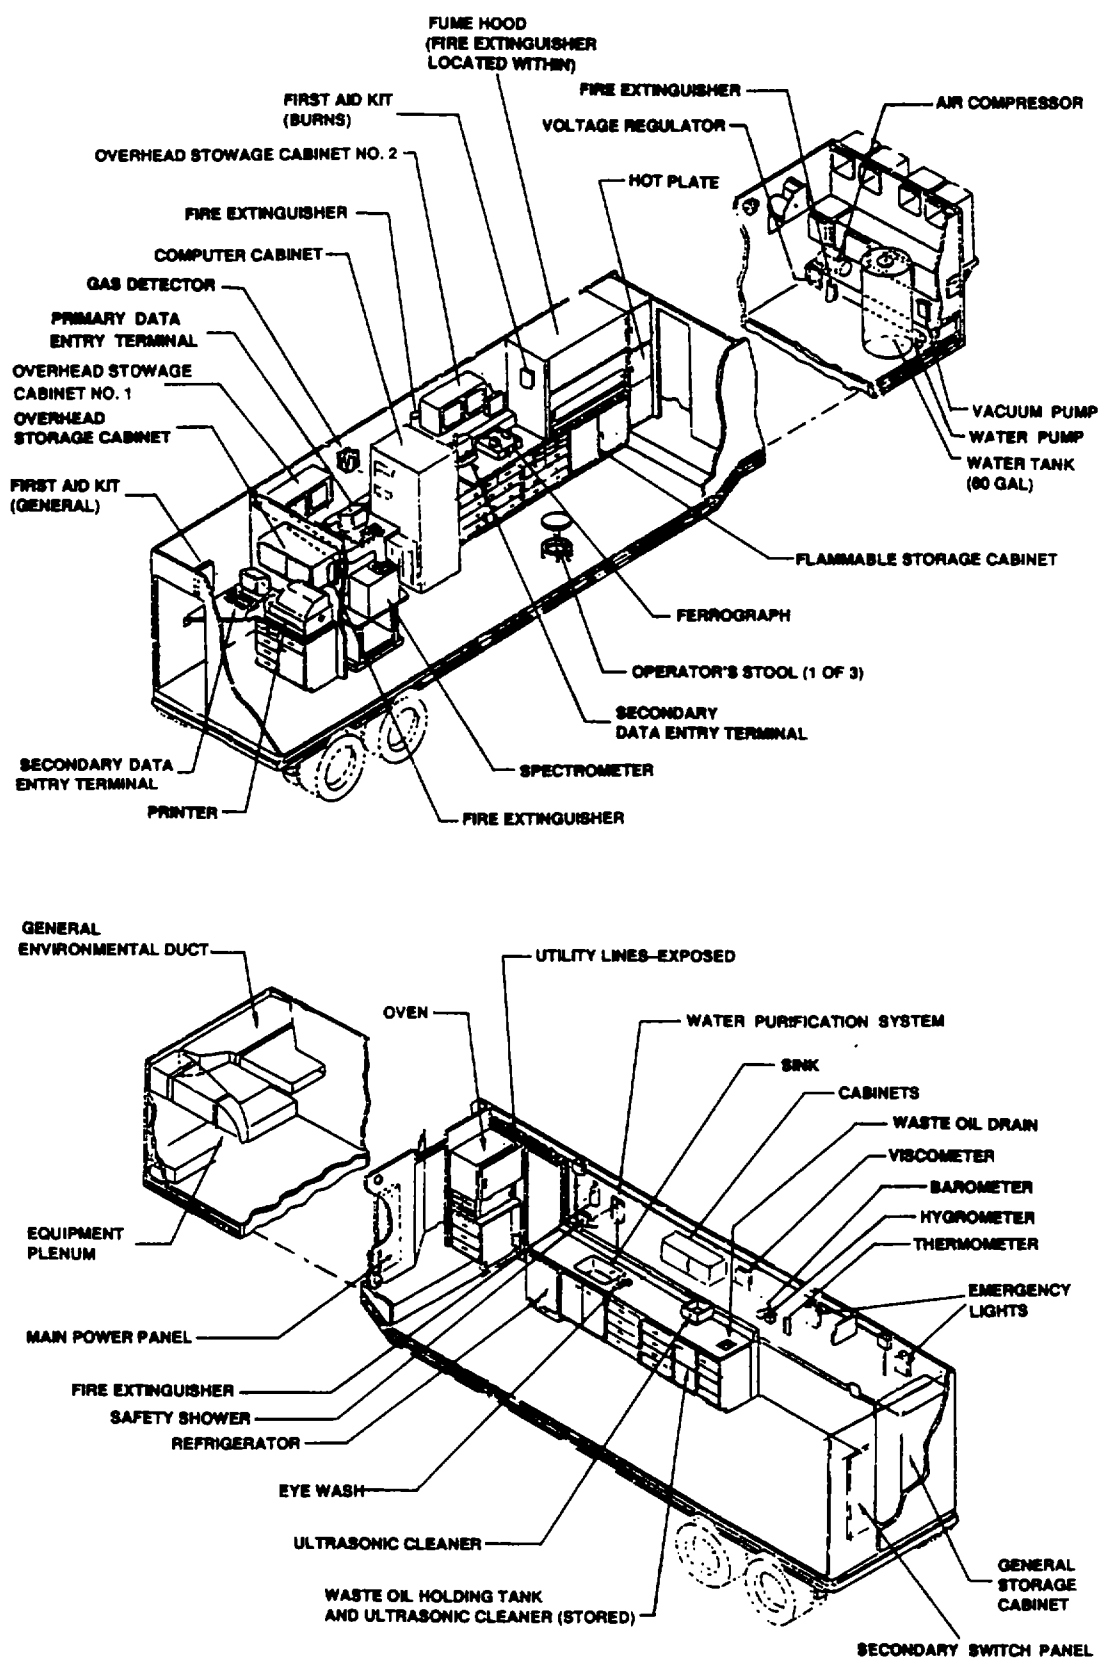

Figure 2-8. AOAP Mobile Laboratory, Interior
(15) Remove the following equipment from storage, overpack, or cabinets and place each item in \ its designated position as shown in Figure 2-8.